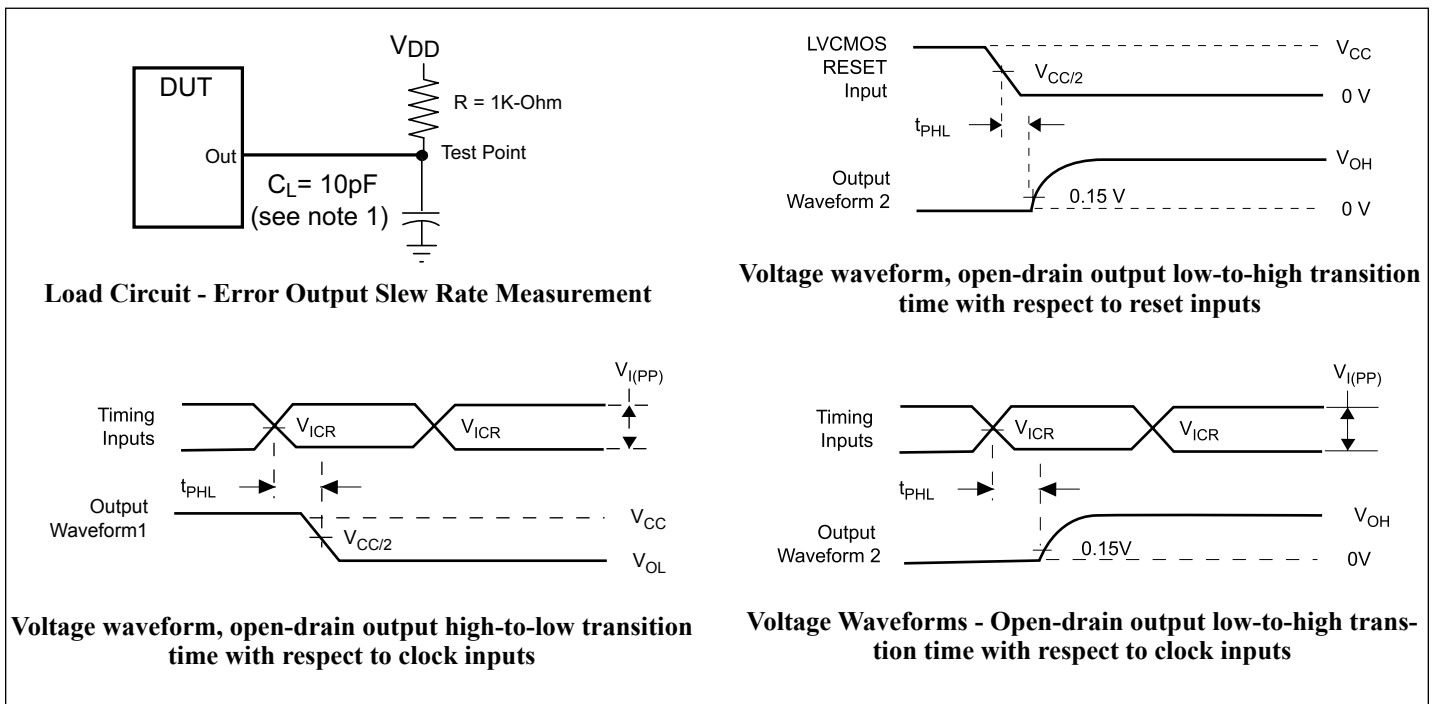

**Figure 2. Data Output Slew-Rate Measurement Information ( $V_{DD} = 1.8V \pm 0.1V$ )**
**Data Output Edge Rates** Over Recommended Operating Free Air Temperature range (See Figure 2)